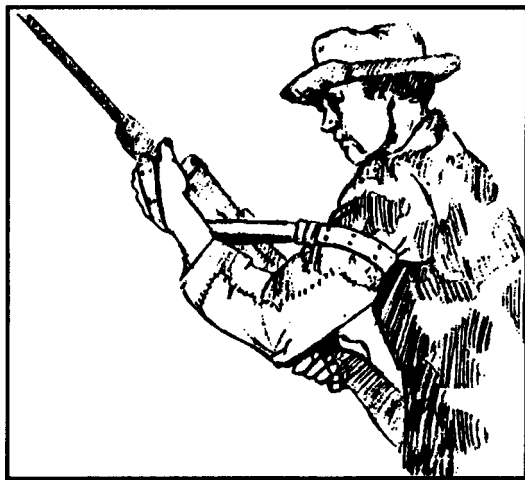

Figure 2-12. Proper placement of the sling.
(6) The sniper moves his nonfiring hand from the outside of the sling to the inside of the sling between the rifle and the sling. The sniper then grasps the forearm of the weapon, just behind the sling swivel with his nonfiring hand. He forces it outward and away from his body with the nonfiring hand (Figure 2-12).
(7) The sniper pulls the butt of the